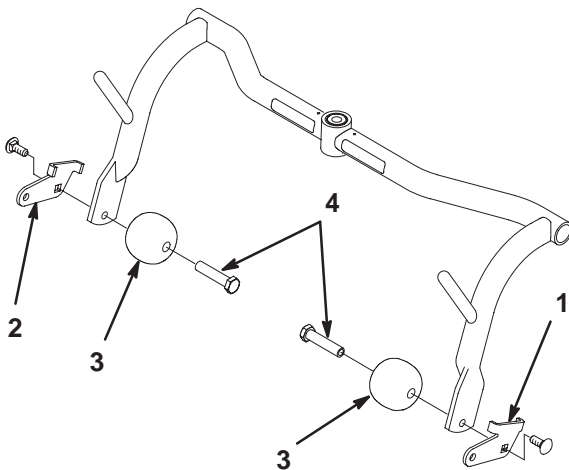

Figure 12
37. Mount the appropriate link bracket (right-hand or left-hand) and an anti-scalp roller to the end of each front carrier frame with a roller shaft and carriage screw. Position the brackets as shown in Figure 12.